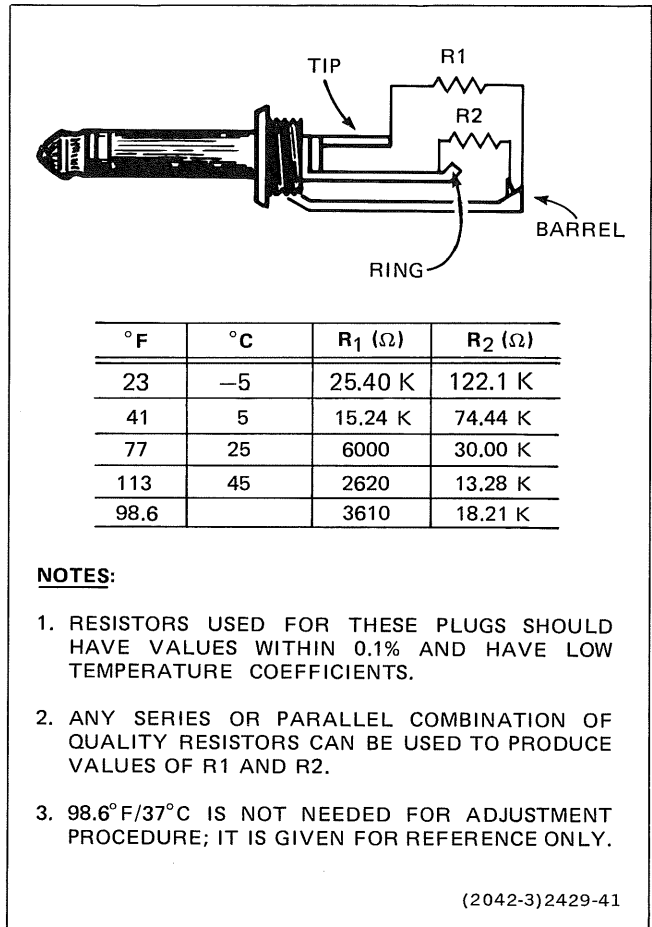

Figure 5-2. Temperature Simulation Plugs.
- e. Set SPEED pushbutton out (25).
- Connect a 113°F/45°C temperature simulation plug, as described in Figure 5-2, to the monitor TEMPERATURE SENSOR INPUT jack (input A on monitors with multiple temperature capability).